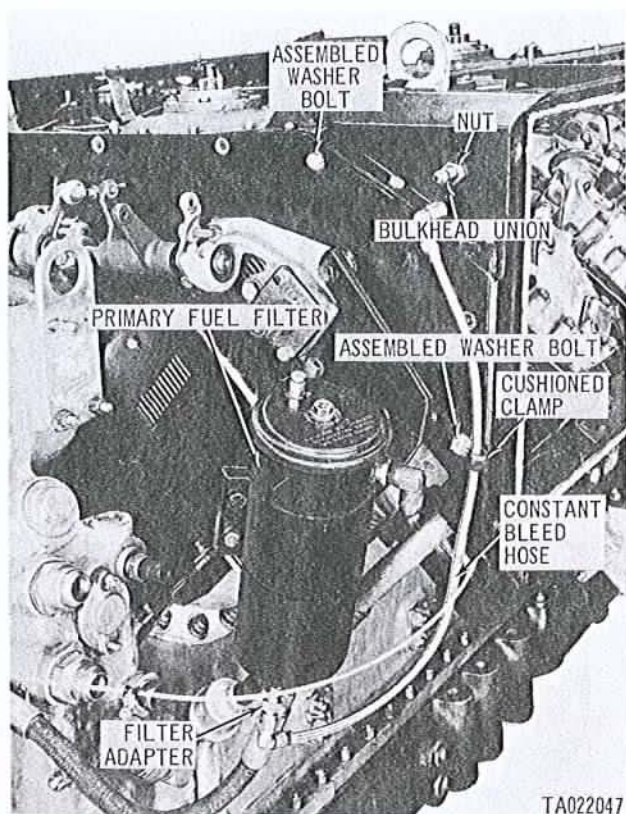

Figure 3-14. Disconnecting or connecting right front oil cooler support frame.
(2) Remove bulkhead union retainer nut and remove bulkhead union from shroud. Remove assembled washer bolt (fig. 3-14) and disconnect and remove fuel filter constant bleed hose from fuel filter. Remove cushioned clamp from hose. Remove one assembled washer bolt securing front shroud to oil cooler support frame.